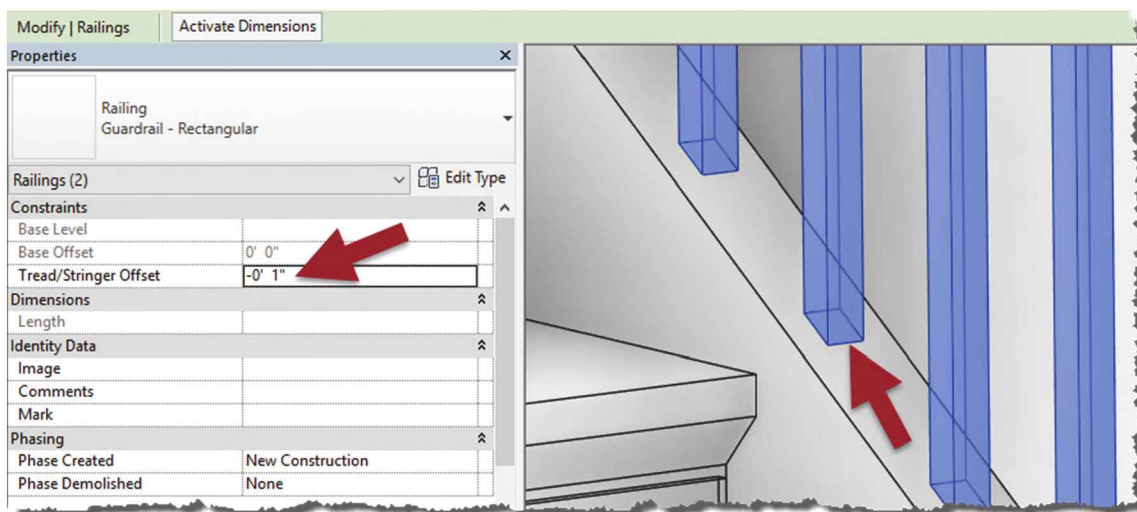

FIGURE 7-8.11 Centering railing on stair stringer
18. Select the two railings and set the instance parameter **Tread/Stringer Offset** to **-0' 1"** to center the railing on the stair stringer (Figure 7-8.11).